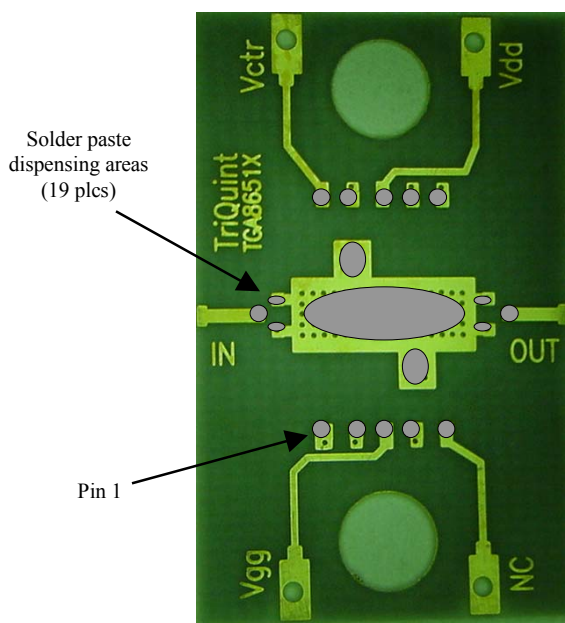

Figure 1: Solder paste dispensing pattern used on the evaluation board motherboard.
2. Dispense Kester SN63 R-593 solder paste dots of 5 to 15mil in diameter to the motherboard as shown in the example motherboard in Figure 1 below. Assure that there is a minimum of 5mils and a maximum of 10 mils between the edge of each solder paste area and the closest edge of the ground pad.